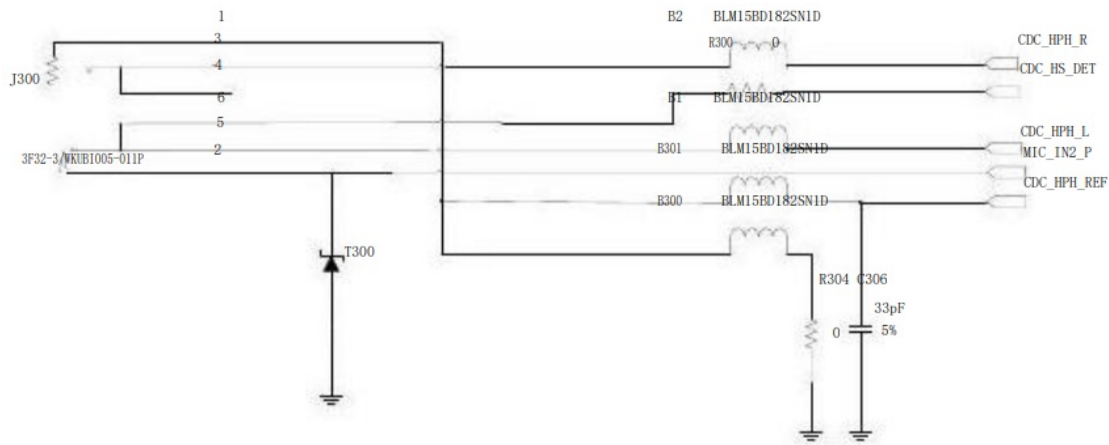

Figure 4.21: Headphone Interface Circuit
1. The headphone holder in Figure 4.21 is normally closed. If the user uses the normally open headphone holder, please modify the detection circuit according to the actual pins and modify the software accordingly.